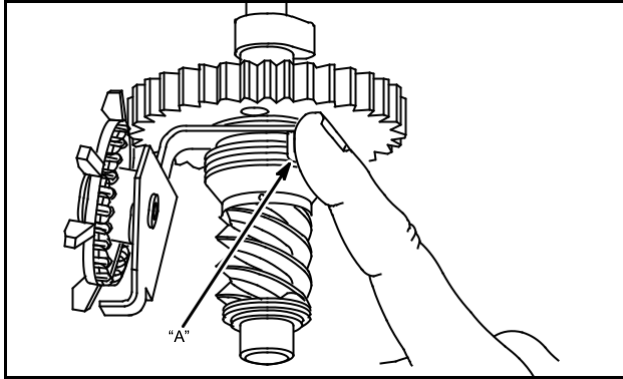

Fig. 157 - INSPECT CLUTCH
1. Push on spring tang, "A," Fig. 157, turning spring and clutch sleeve in a counterclockwise direction.